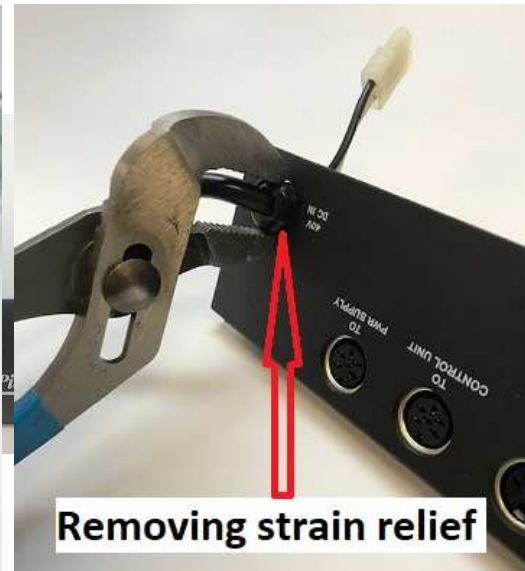

figure 3
6. Using a pair of channel lock pliers, squeeze the strain relief grommet on the 40 VDC cable to release from the plate. ( See fig. 3)